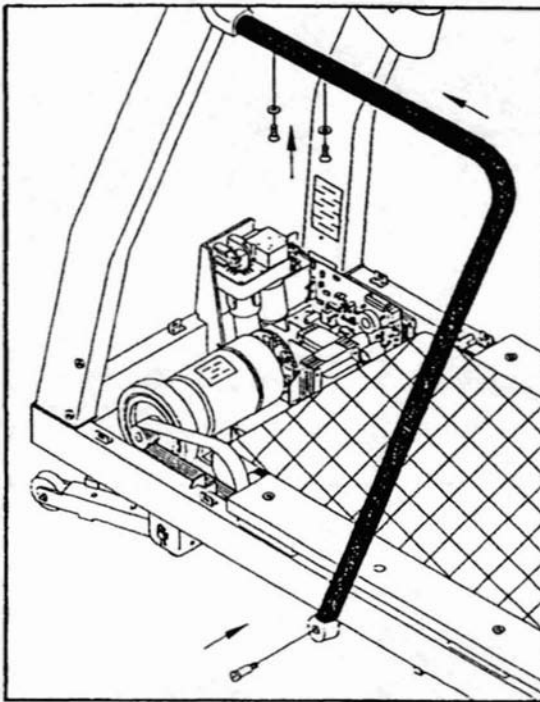

Fig.18
5. Install handlebars and tighten all screws. (see Fig.18)